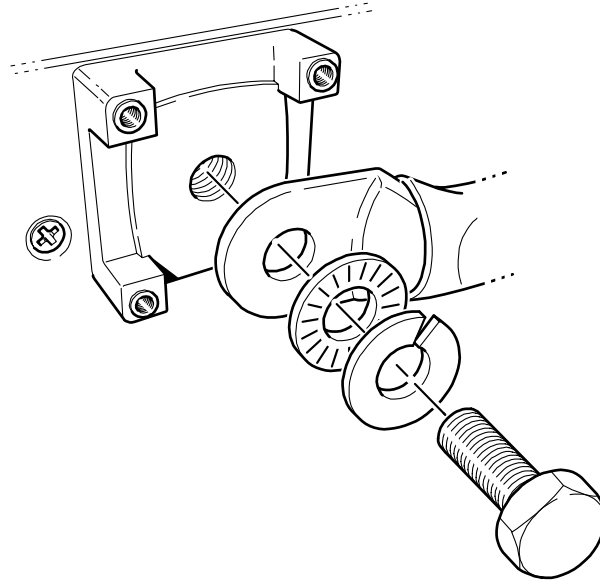

Figure 7 DC Cable Connections
Use only appropriately sized copper cable. Loose connections or improper connections will overheat. Make sure the bolts supplied by Xantrex on the inverter/charger are tightened to a torque of 15–16 ft-lbs (20.4–21.7 Nm). Torque all other connections to the manufacturer's specifications. Make sure the DC cable, washers, and bolt are assembled in the order shown in Figure 7.
3. Connect one connector on the POSITIVE (+) cable to the POSITIVE DC terminal on the inverter/charger, as shown in Figure 7. The connector goes on first, then the flat washer (steel), lock washer (steel), and 3/8" bolt (brass).
5. Connect one connector on the NEGATIVE (–) cable to the NEGATIVE (–) DC terminal on the inverter/charger, as shown in Figure 7. The connector goes on first, then the flat washer (steel), lock washer (steel), and 3/8" bolt (brass)).